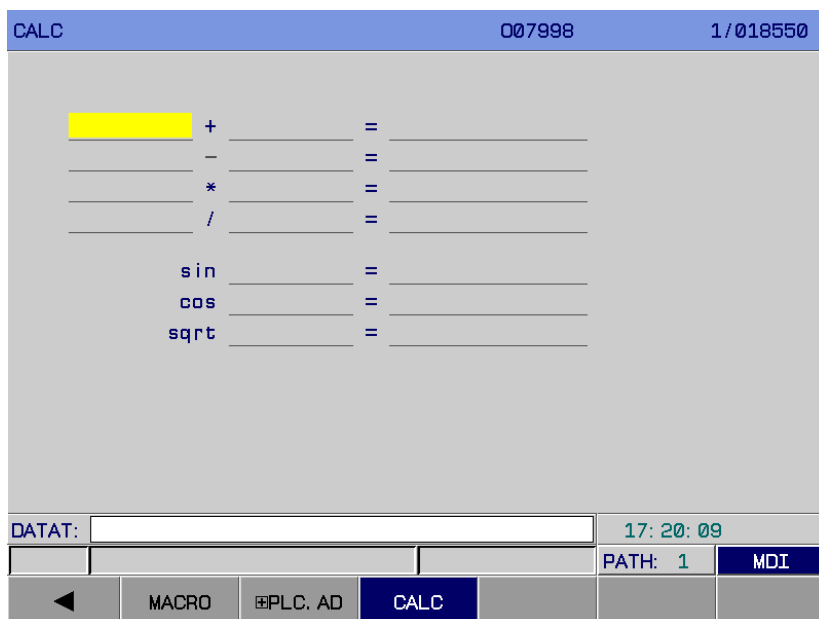

Fig. 3-9-12
8. Counter interface Enter the counter information page by **【COUNTER】** softkey in <HELP> interface; refer to the Fig. 3-9-12: